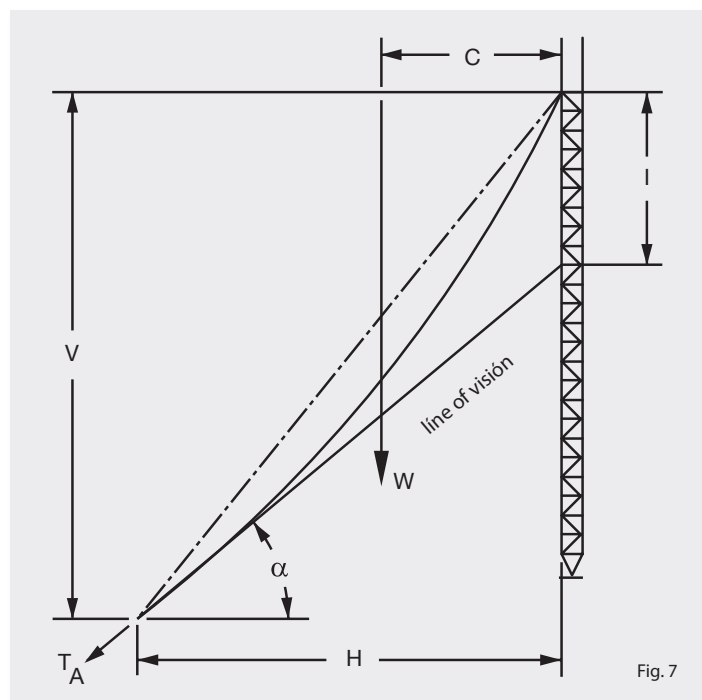

Fig. 7
1. The pulse method (see figures 7 and 8)
α = guy wire angle on its anchor point (see figure 7)